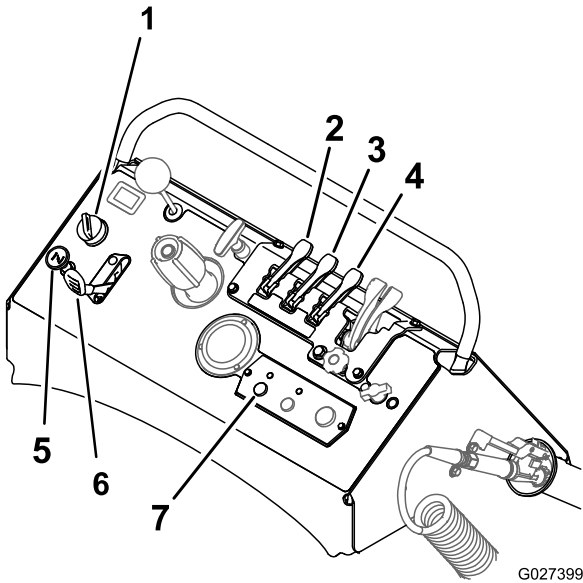

Figure 46
3. Start the engine (Figure 46) and ensure that the motion control lever is in neutral position; refer to Starting the Engine (page 24).
4. Set the sprayer pump switch to the On position, and set the engine throttle to Fast position (Figure 46).
5. Move the tank agitation lever to the On position (Figure 46).
6. Pull back both narrow and wide spray pattern levers to the On position (Figure 46).
11. Move the spray pattern levers forward to the Off position, set the sprayer pump switch to the Off position, and shut off the engine (Figure 46).